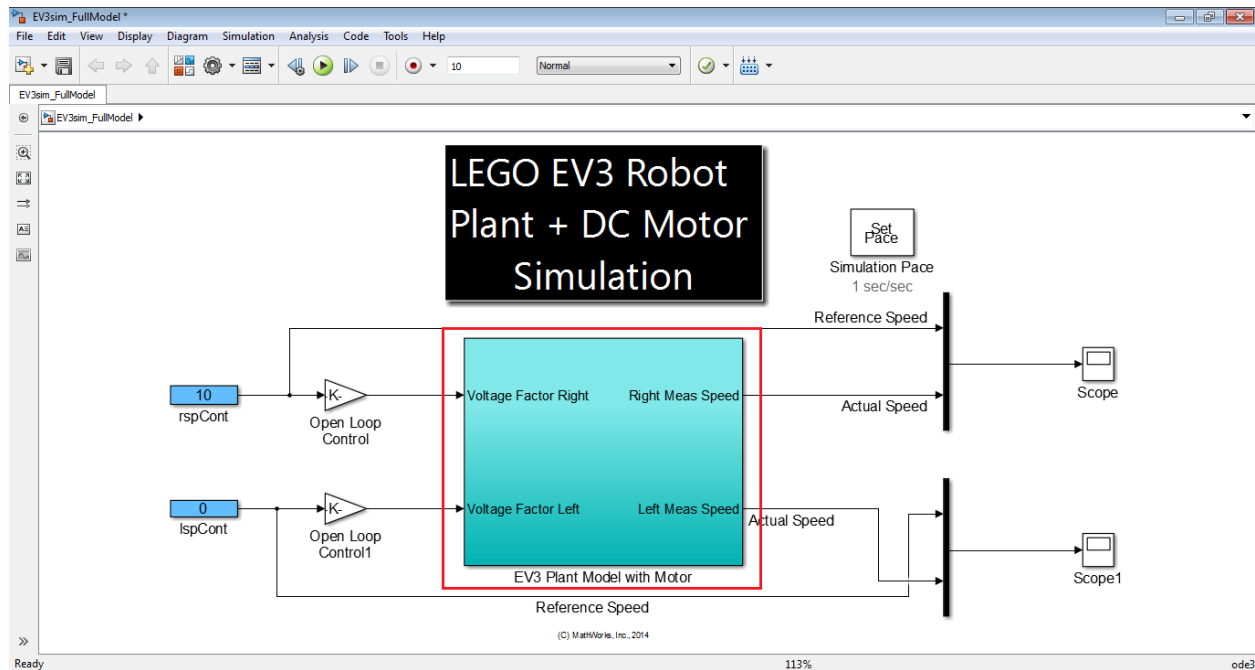

Figure 40 - Fully integrated simulation model
This model has the motor model already implemented with the EV3 mechanical model as shown in Figure 40.
2. Note that in 'EV3sim_FullModel/EV3 Plant Model with Motor' the motor feeds the speed and hence position to a mechanical assembly (Figure 40). Also, navigate to 'EV3sim_FullModel/EV3 Plant Model with Motor/Left Motor Subsystem' subsystem. This is the same model that we developed in OP1.2.